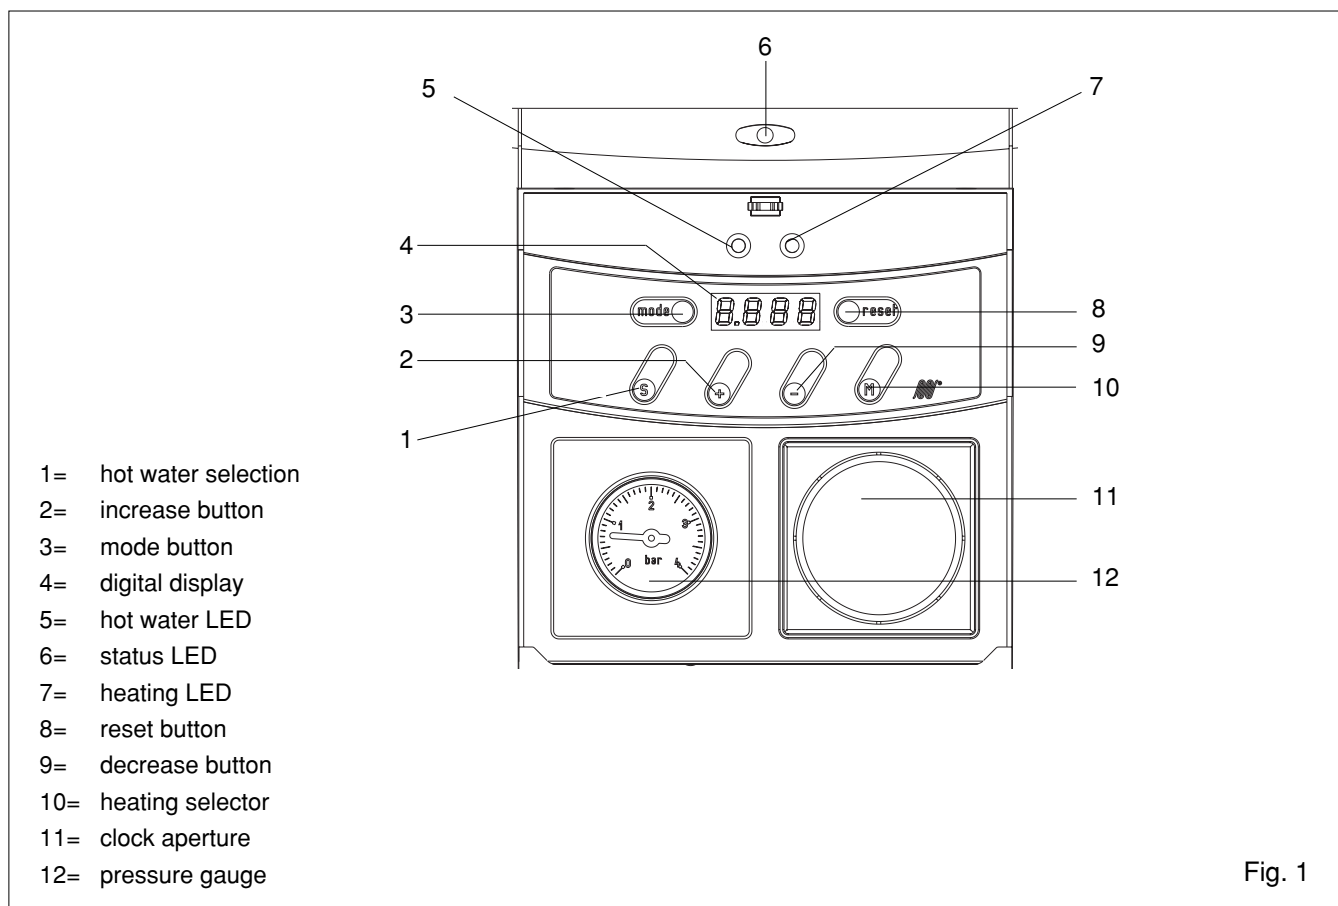

Fig. 1
Remove the appliance casing as detailed in section 4.10. Unclip and remove the air chamber cover. Set the flue gas analyser to read CO₂ and insert the probe into the flue analysis test point (fig.1). Using the procedure as detailed in section 7.4, enter the appliance engineer mode and set the power to minimum.
2.2 APPLIANCE CONTROLS (fig. 1)
The heating mode can be switched ON or OFF at the boiler irrespective of the current time clock setting. This is indicated by the heating LED (fig. 1). If the heating LED is illuminated, this indicates that the heating mode is enabled and is controlled via the time clock and any external controls such as a room thermostat.
The hot water mode can be switched ON or OFF at the boiler. This is indicated by the hot water LED (see fig. 1).
2.3.5 STATUS LED (fig. 1)